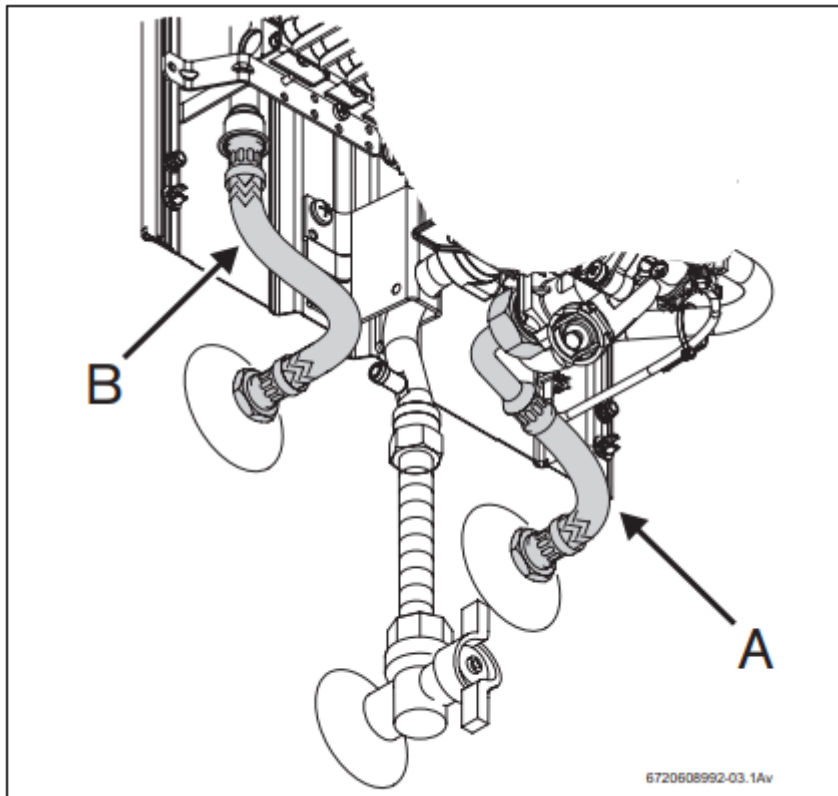

Fig. 5 Water connection
- Identify the cold water pipe (Fig. 5, item A) and the hot water pipe (Fig. 5, item B), so as to avoid any possible cross-connection.